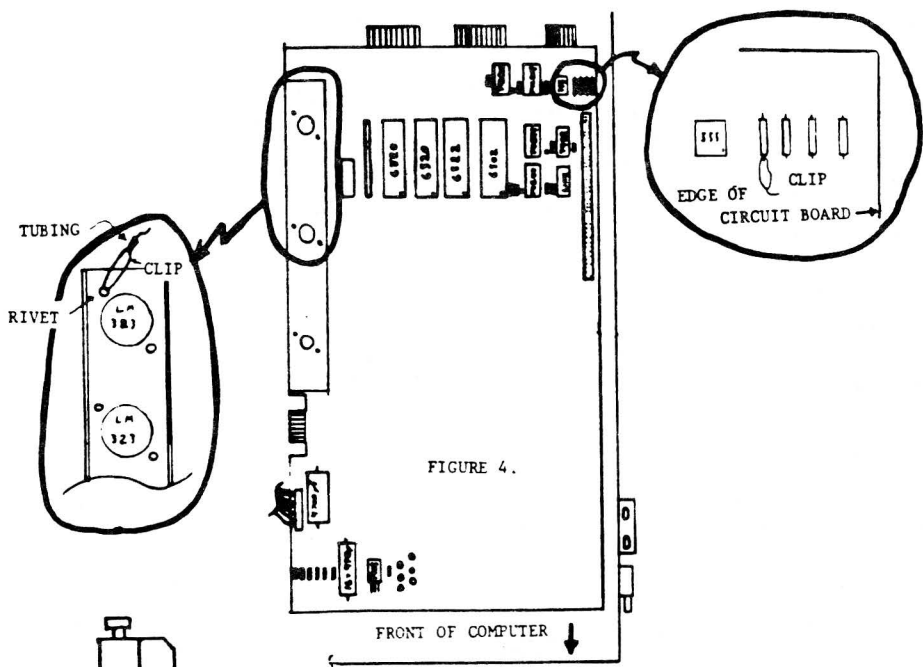

FIGURE 4.
8. ATTACHING THE CLIPS: Using figure 4 to locate components, attach the two leads to the circuit board as follows; One of the clips has a small tube coming out of the protective covering over the wire. This clip goes on the rear mounting screw of the silver regulator on the long black heat sink on the left of the circuit board. The other clip goes on the front wire leg of a resistor next to the small IC in the right rear corner of the circuit board. Check figure 1 closely to make sure you clip to the right resistor on the circuit board. It may help to bend the capacitor next to the resistor a bit to the right. Be gentle